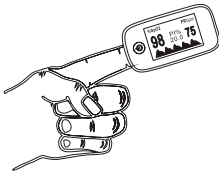

Figure 4 Finger Placement Diagram
- B. It is recommended to let the LED light shine directly on the nail (Figure 4).